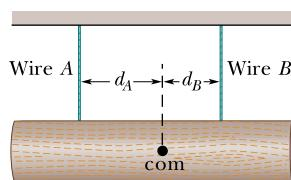

Figure 12.46 Problem 49.
- 49 M GO** In Fig. 12.46, a  $103 \text{ kg}$  uniform log hangs by two steel wires, *A* and *B*, both of radius  $1.20 \text{ mm}$ . Initially, wire *A* was  $2.50 \text{ m}$  long and  $2.00 \text{ mm}$  shorter than wire *B*. The log is now horizontal. What are the magnitudes of the forces on it from (a) wire *A* and (b) wire *B*? (c) What is the ratio  $d_A/d_B$ ?